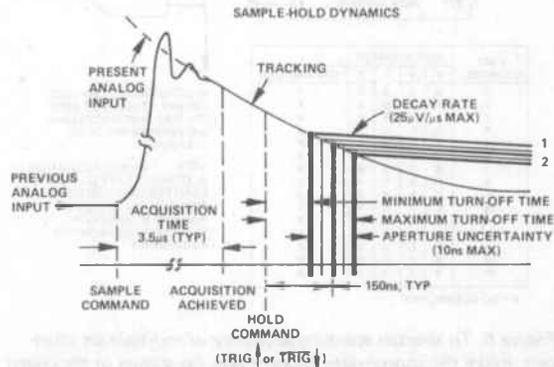
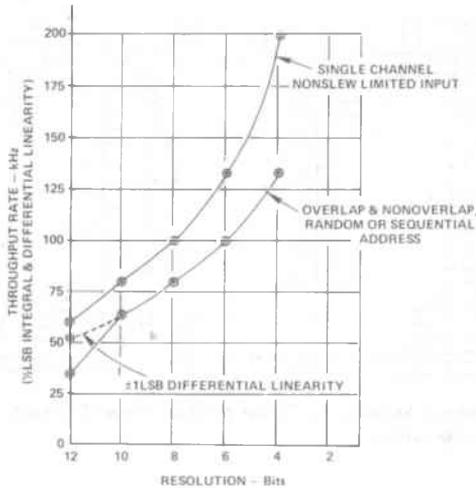

Figure 4. Sample-Hold Parameters Defined and Specified
Figure 5. DAS1128 Throughput Rates
The overlap mode is defined as the ability of MUX to accept a new channel address thereby selecting the next channel to be sampled while the previously acquired sample is being held by the S/H circuit for conversion. The dynamic characteristics of the S/H circuit are shown in Figure 4. Maximum throughput rates are obtainable when a single channel is held at a single address and the channel is sampled repeatedly. In a dynamic condition, data-throughput rates obtainable are shown in Figure 5.
It is possible to short cycle the DAC1128, i.e., stop the conversion after less than 12 bits. This can be done by connecting an external jumper between short cycle terminal and one of the output terminals. With shorter cycles the attainable throughput rate increases, see Figure 5. In short cycle operation the EOC will decrease proportionately to the number of bits selected. Note the short cycle terminal *must* be grounded for full 12-bit operation.
3. Select A-D conversion/channel select sequence (see Figure 5).